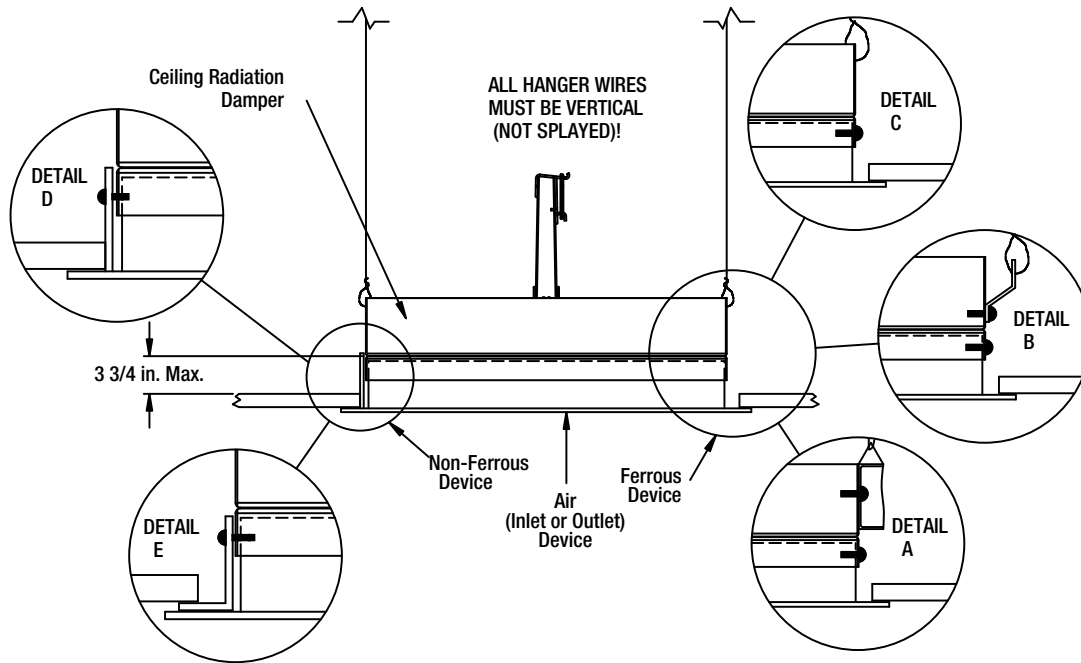

Figure 9
1. Ceiling radiation damper may be connected directly to the air device neck and supported by steel channel (See Detail A, Figure 9).
2. Ceiling radiation damper may be connected directly to the air device neck and supported by hanger straps (See Detail B, Figure 9).
3. Ceiling radiation damper may be connected directly to the air device neck and supported by direct suspension with wires looped through holes in the damper frame before tying (See Detail C, Figure 9).
1. A steel extension should extend from the ceiling radiation damper to the bottom surface of the ceiling membrane and the opening in the ceiling membrane (see page 1, paragraph 3) should be equal to the outside of the steel extension (see Detail D, Figure 9).
2. A steel angle should be attached to the bottom of the ceiling radiation damper and span the gap from the ceiling radiation damper to the bottom of the ceiling membrane. The steel angle should overlap the ceiling membrane (see Detail E, Figure 9).
Models CRD-1, CRD-1LP, CRD-2, and CRD-60 may be installed as shown in **Figure 9** (Model CRD-1 CRD-1LP Illustrated).